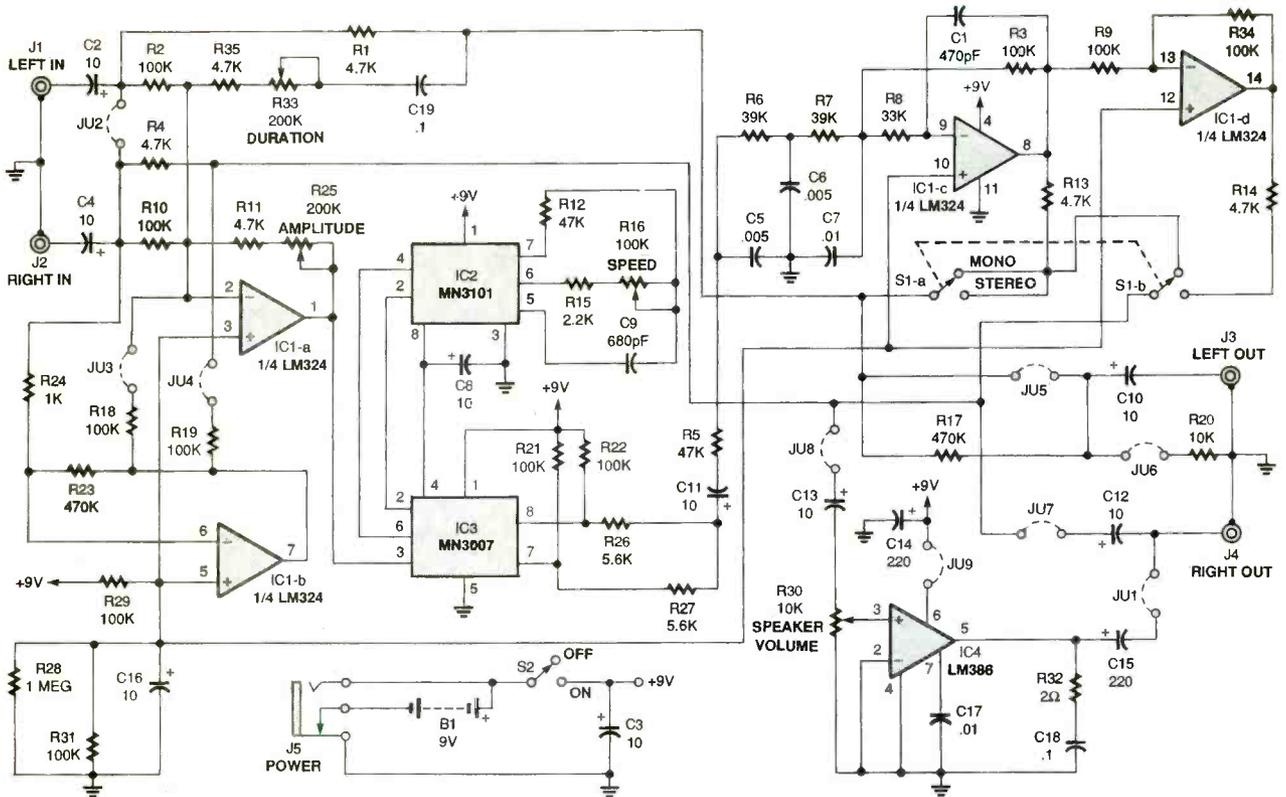

Fig. 1. Here's the schematic for the Reverb and Surround Effects Generator. The heart of the circuit, IC3, is an MN3007 1024-stage bucket-brigade device.
**Circuitry.** The schematic for the Effects Generator is shown in Fig. 1. Power for the circuit is obtained from either a 9-volt battery or a 9-volt DC supply plugged into power-jack J5.